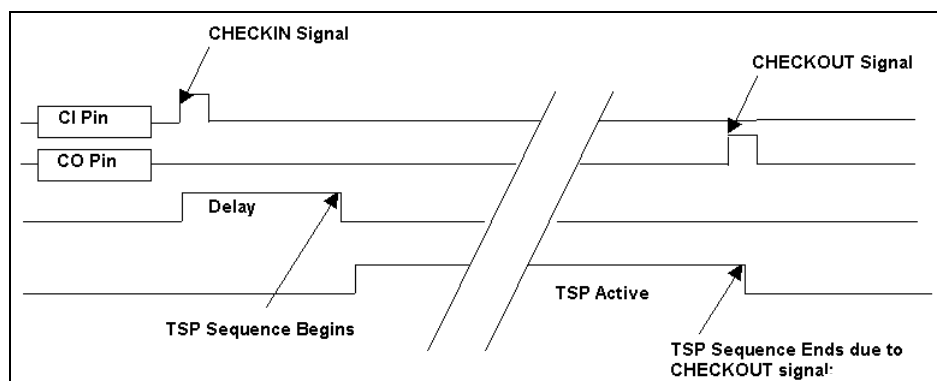
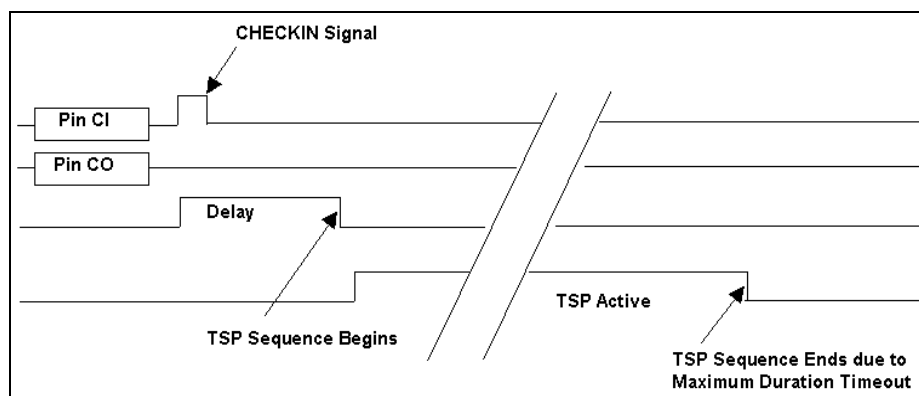
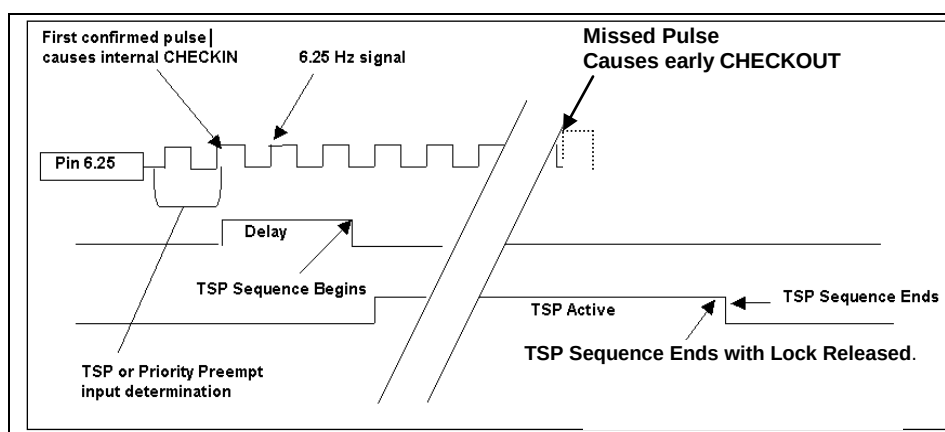

Figure 2-1. TSP Cycle Ending with Single Pulse Check-Out
Figure 2-2. TSP Cycle Ends in Timeout (no Check-Out)
Figure 2-4. TSP Cycle Ending with Lock Released
2. **TSP Delay** – Controller timing function that can be set to delay the beginning of TSP operation until a set interval after check-in. Each illustration in **Figure 2-1** thru **Figure 2-4** shows a delay interval. Set the **DELAY TIME** in **MM-4-3**.
Figure 2-1 shows a typical TSP cycle with Single Pulse (SOLID) check-in and check-out.
TSP operation that begins with a single-pulse check-in typically ends due to a single pulse check-out, as shown in **Figure 2-1**. However, the TSP cycle can also end due to a timeout condition if a check-out signal is not received within the cycle time set for normal operation, as shown in **Figure 2-2**.
In the *second condition*, TSP cycle ending will take place upon serving the TSP phase(s), and will override a Check-Out (lifting of the 6.25 input) until the TSP phase(s) is served. This function assures the early green return to the TSP phase(s). If an early check-out takes place before the Lock is released, then the TSP cycle will continue on until the lock is released, as shown in **Figure 2-4**.